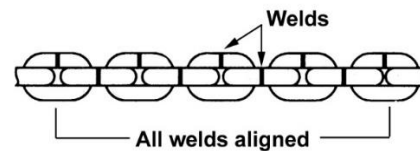
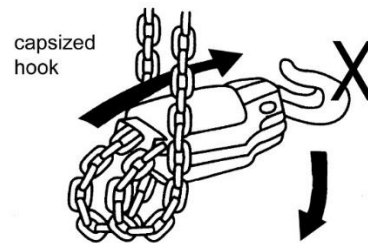

Figure 11-1
Figure 11-2
Check that chain does not twist along its length from hoist to hook (Figure 11-1). If twist is present on units with multiple falls, the hook has been capsized; it must be passed back through the chain loop to remove all twist in the chain. See Figure 11-2.
- Check that chain is not twisted at bottom hook. All welds should face same direction (see Figure 11-1). For hoists with two or more falls of chain, make sure bottom hook is not capsized. This may cause the chain to twist.